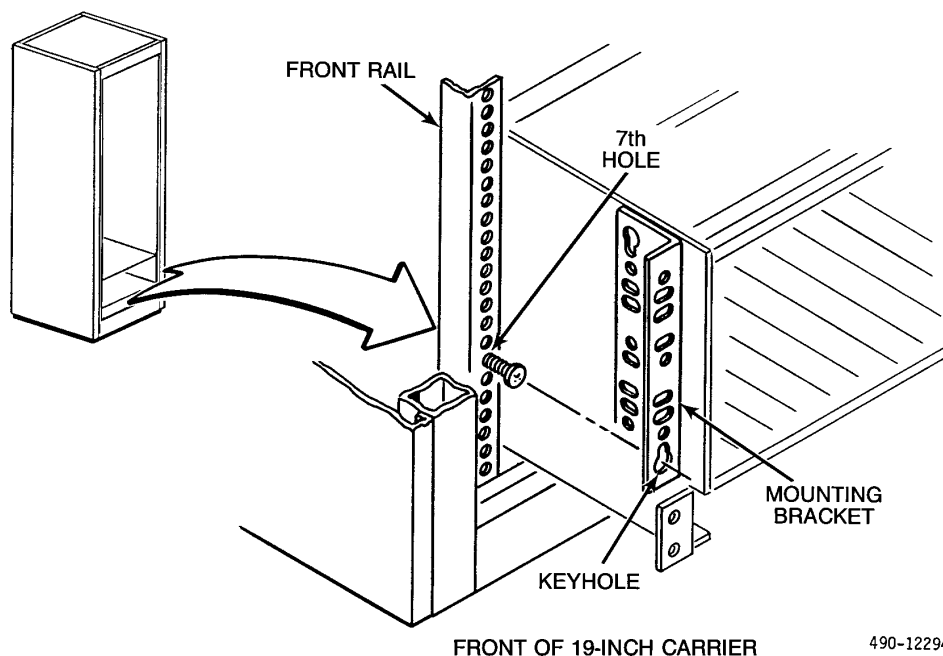

Figure 3-3. Installation of First Carrier into Cabinet with Threaded Screw Holes
2. Place the carrier against the front rails at the bottom of the cabinet, as shown in Figure 3-3, to determine where the two lower machine screws should be installed, then set the carrier aside. Use the larger screwdriver to install the two screws
3. Place the carrier against the front rails of the cabinet again, as shown in Figure 3-3, allowing the installed machine screws to pass through the keyholes. Lower the carrier into place, allowing the keyholes to slide under the screw heads.